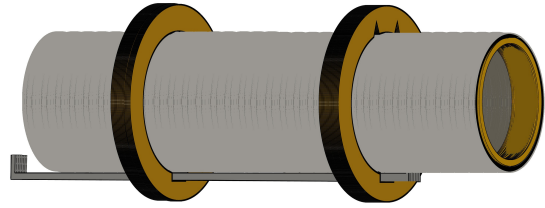

Figure 3
- **Step 8** Apply a thin layer of glue around the inside of the motor tube to a depth of about 1/8". Insert the CR-520 ring into the top end of the tube and push with an expended engine casing until it bottoms out against the tip of the engine hook. Apply a thin layer of glue around the base of each CR-2050 ring where it contacts the motor tube, front and rear faces. Clean out the "V" notch of any glue that happens to get into it so that it remains open after the glue dries. The motor mount should look similar to the illustration in Fig. 3 above. Allow this to dry completely, about 20 minutes.